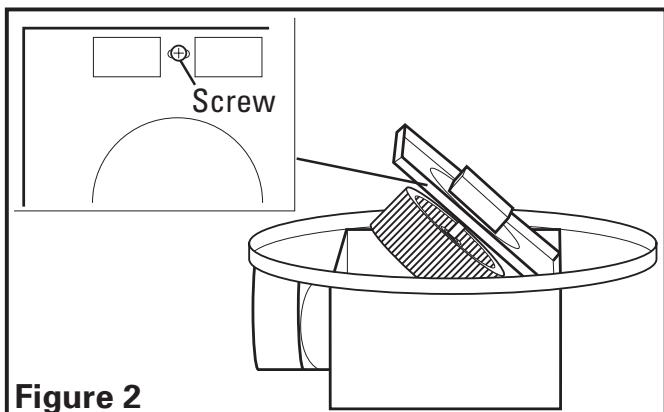

Figure 2
3. Remove the fan's venturi assembly, which is secured in place with one screw through the venturi. Keep the venturi assembly in the carton until needed so it does not get damaged or lost (**Figure 2**).